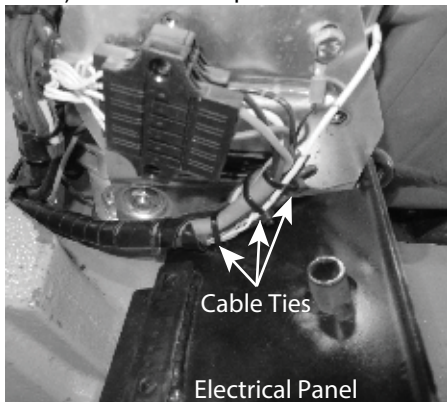

Figure 36. Cable and Electrical Panel Removal
2. Cut and discard the cable ties securing the bundled electrical connectors to the back of the electrical panel (Figure 36). Remove the panel and set it aside.